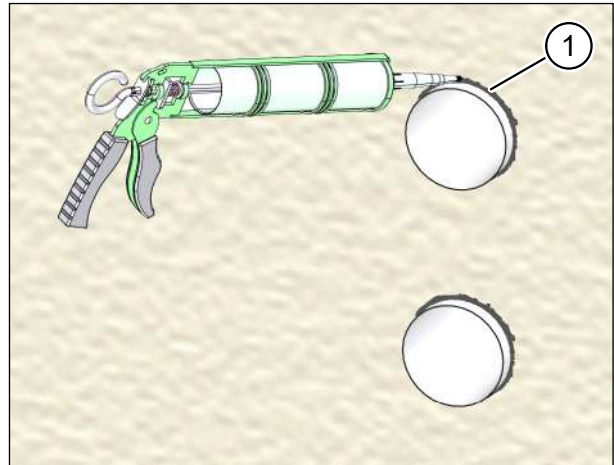

Fig. 70: Sealing ventilation pipes on the external wall
- ▶ Chamfer both pipe breakthrough edges (item 1 in Fig. 70) to roughly 5 x 45° to create enough space for the sealing joints with permanently elastic sealant.